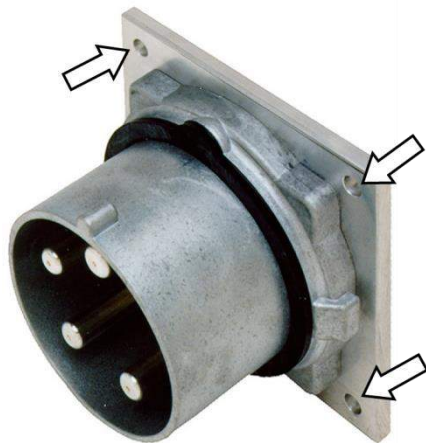

Fig.52: Drill hole for installation
1. If necessary, install the Male Connector or Female Connector to a housing or the wall using drill holes (Fig. 52 /Pfeile) .